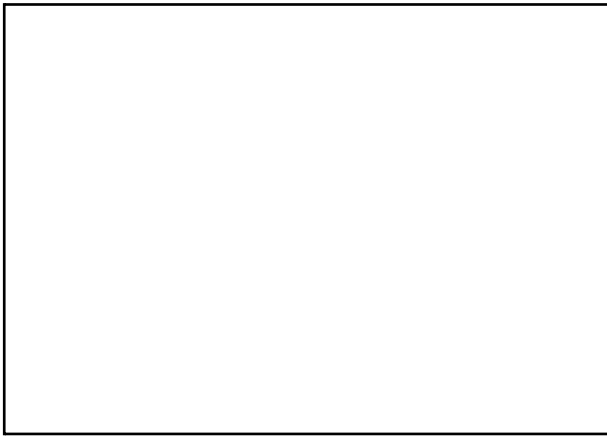

Fig. 15
Remove screws (40, Fig. 15) and withdraw lamp unit (41) carefully from housing.